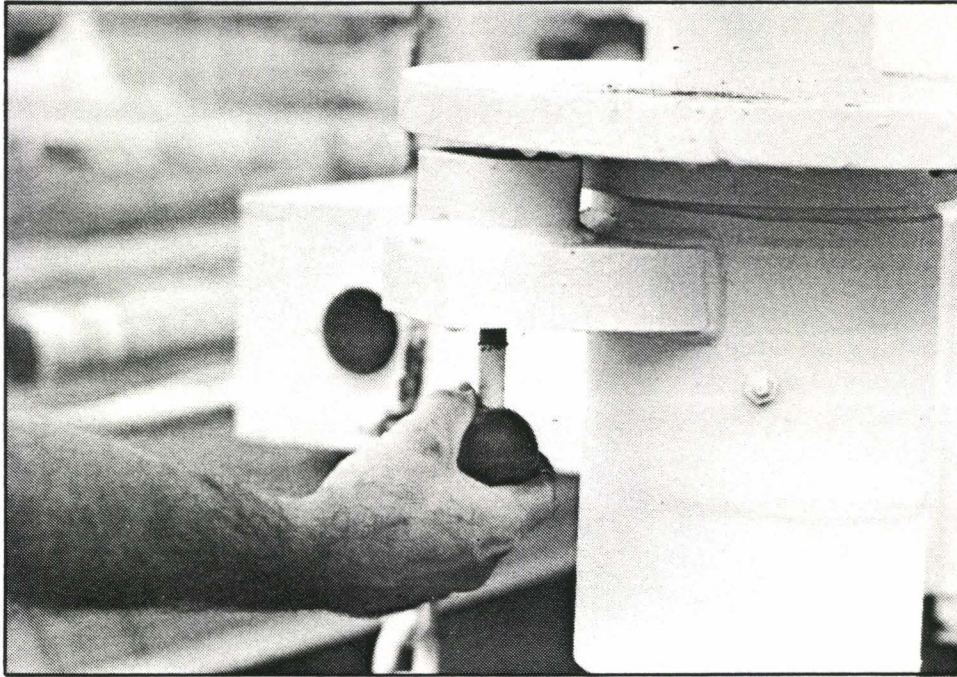

Figure 3.15.1f
- a. Move **FEED CONTROL (31)** slowly toward **HOIST** position and observe bottom end of top drive as it raises up in the mast.
- r. Manually index carousel, using pin located on bottom of pipe rack (Figure 3.15.1f).